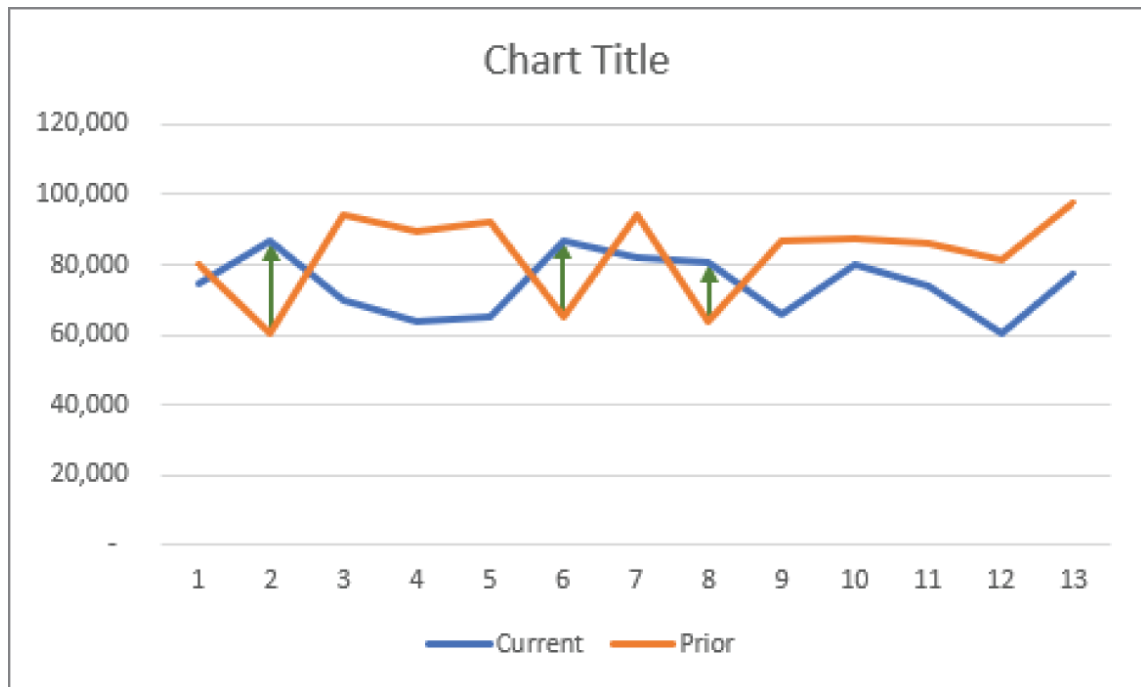

Figure 9.37: The chart with positive differences
6. On the Fill & Line tab of the Format Error Bars task pane, change Width to **1.25 pt**, change Begin Arrow Type to Arrow, and set Color to dark blue. Figure 9.37 shows the chart at this point in the process.